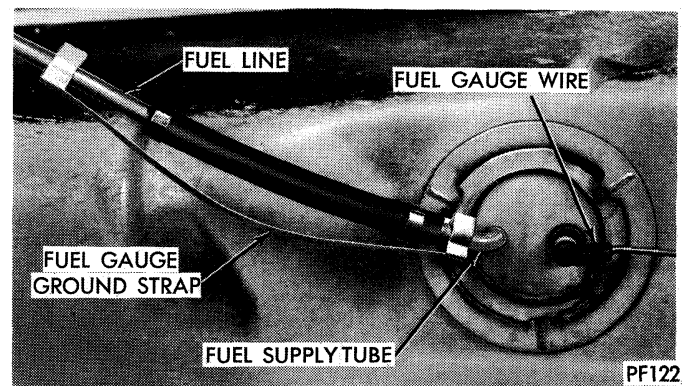

Fig. 2—Fuel Gauge Ground Strap and Electrical Lead
(1) Remove hose ground strap or wire and electrical connector (Fig. 2).